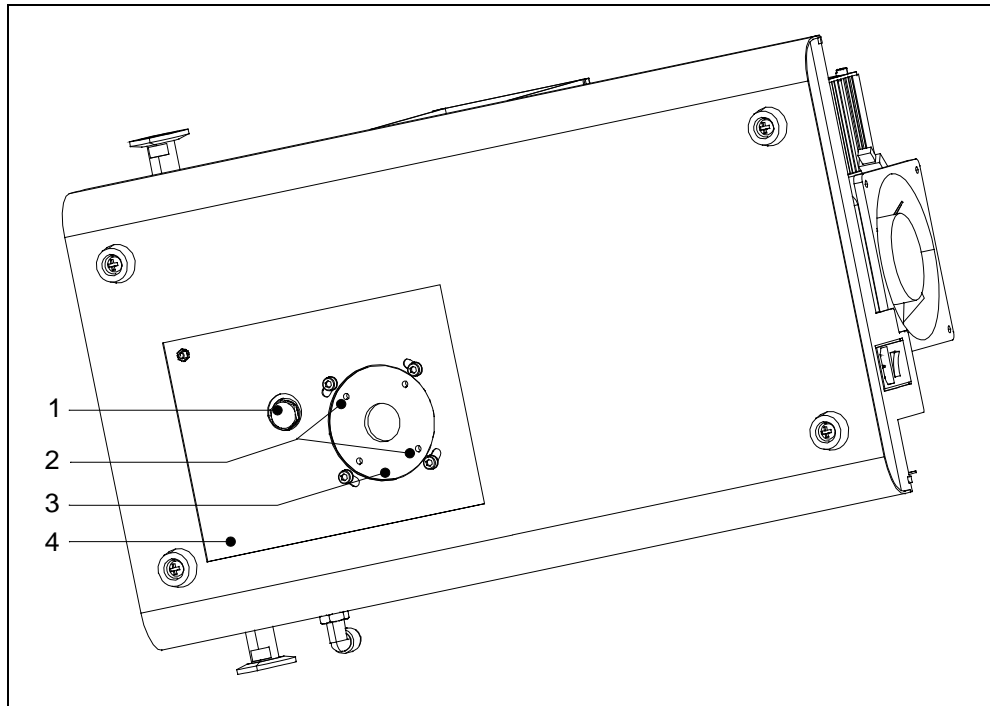

Fig. 7-3 Cover of the lubricant reservoir TMH 071
- 4 To be able to replace the lubricant reservoir of the turbo-molecular pump, the cover at the bottom of the TMH 071 has to be unscrewed. Refer to Fig. 7-3/3.